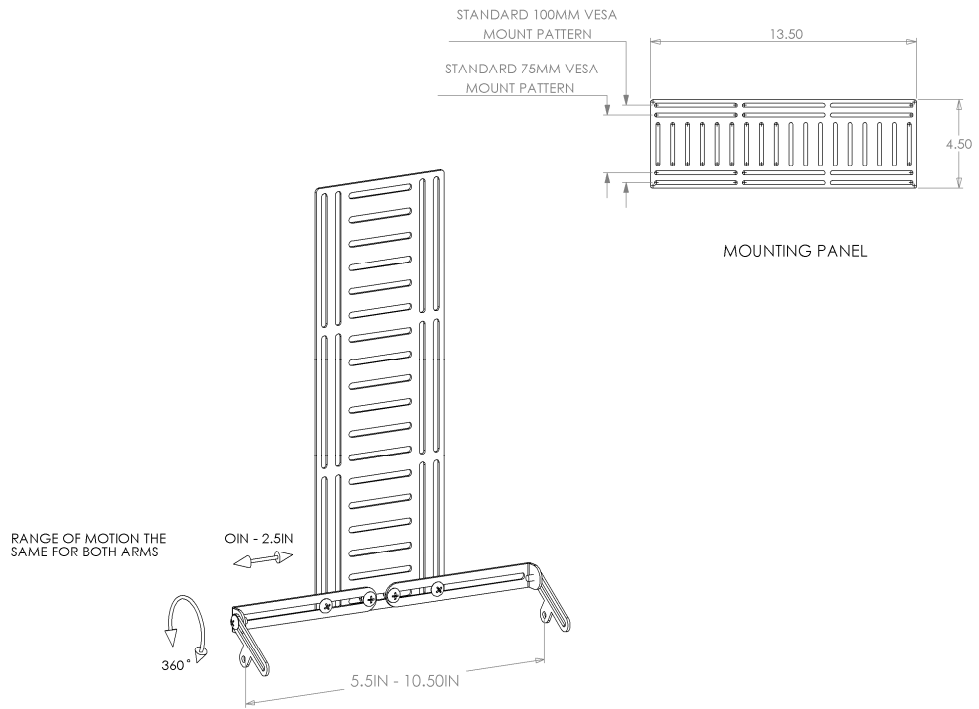

Figure 1 - FPAM-RDC
1. Examine the contents of the optional FPAM-RDC hardware kit (See Figure 1). Note that the arms and tee tangs of the hardware kit can be custom configured to attach a wide variety of bump bars, card swipes, speakers, etc. to the mounting plate.
3. Carefully slide the RDC unit into the bent section and under the clamping washer (See Figure 1). Center it on the back of the FPAM-RDC plate and tighten the thumbscrew to secure the RDC unit to the plate.